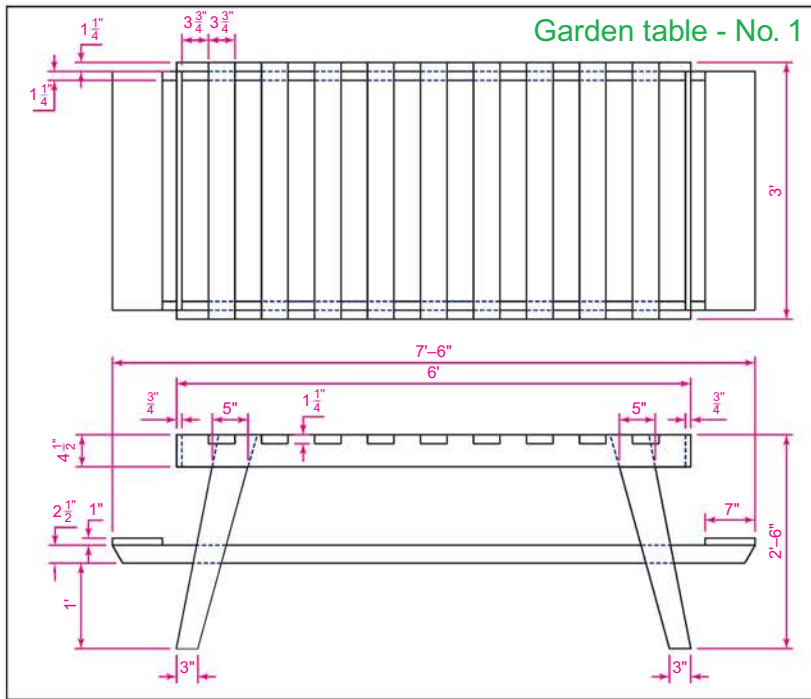

Fig. 17.38 Exercise 8 – garden table no. 1
8. Three orthographic projections of garden tables are shown in Figs 17.38–17.40. Fig. 17.41 shows 3D models of the tables.